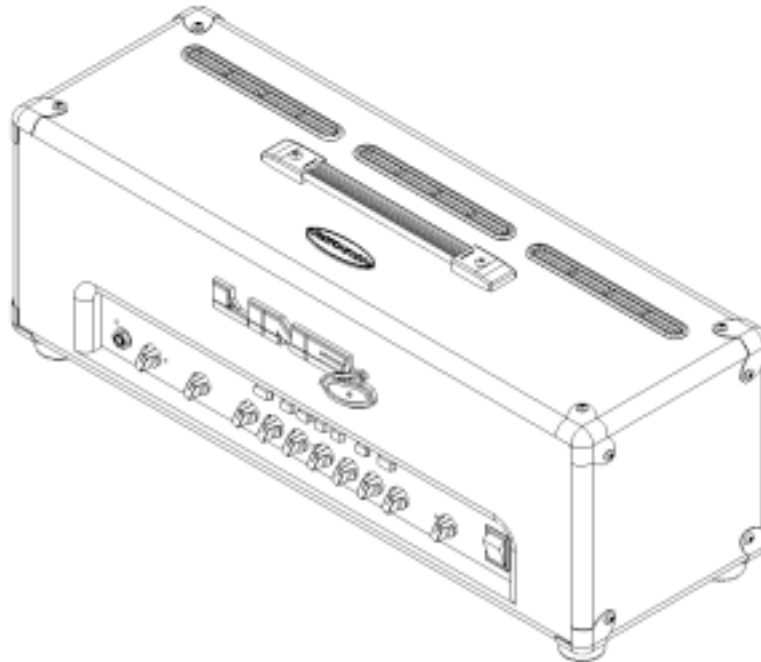

Figure 30
- d. The Flexitone II Head is now complete – ROCK ON!! See figure 30.